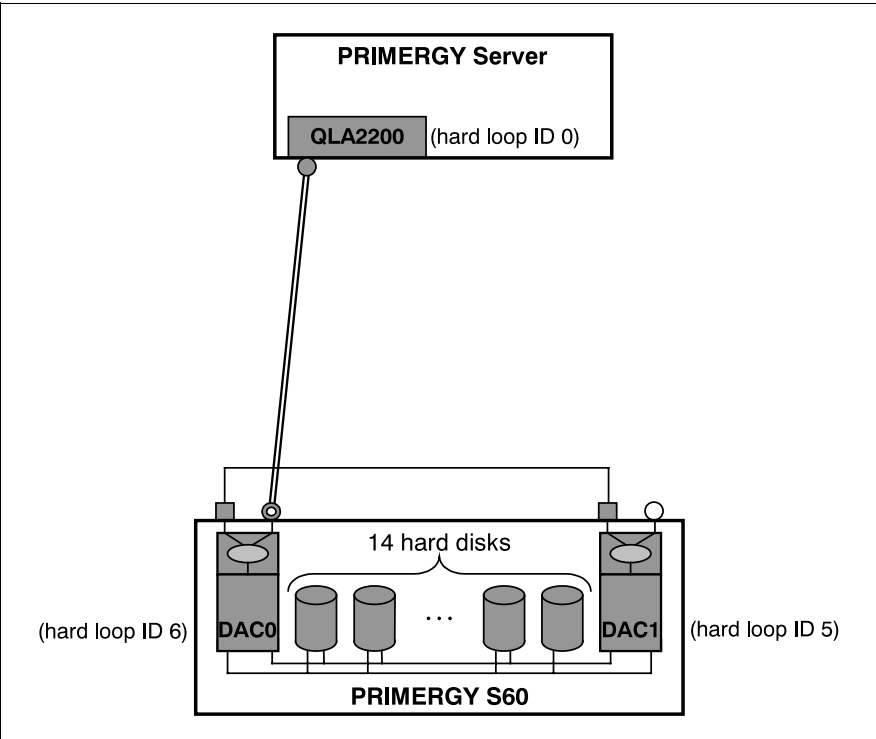

Figure 16: Direct Attached Storage Subsystem with Controller Fail Over
- Loop IDs (see figure 16 on page 21)